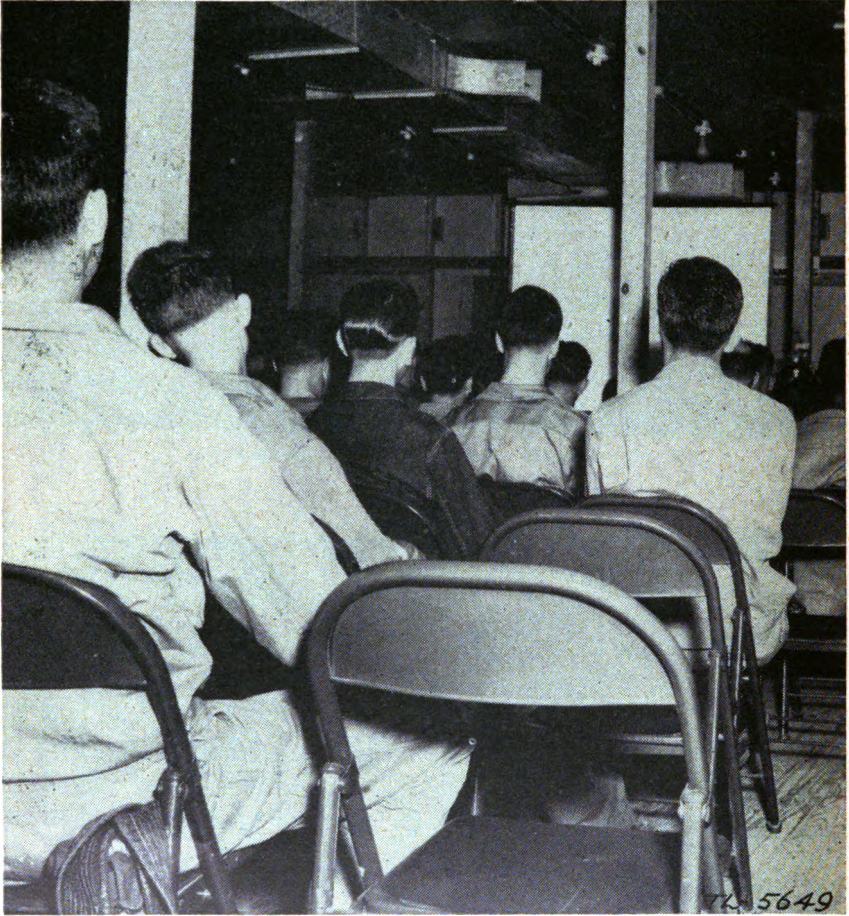

FIGURE 38.—Posts obstruct view of screen.
(2) In rooms containing posts, the seats outside the line of posts should not be used. Posts block the view from side seats. (See fig. 38.)
*b. Window shading.*—(1) Blackout curtains, canvas, or blankets may be used to shade windows temporarily. Rooms used permanently for film showings may be darkened by painting the windows black. Rear windows need not be shaded. Windows hinged at the